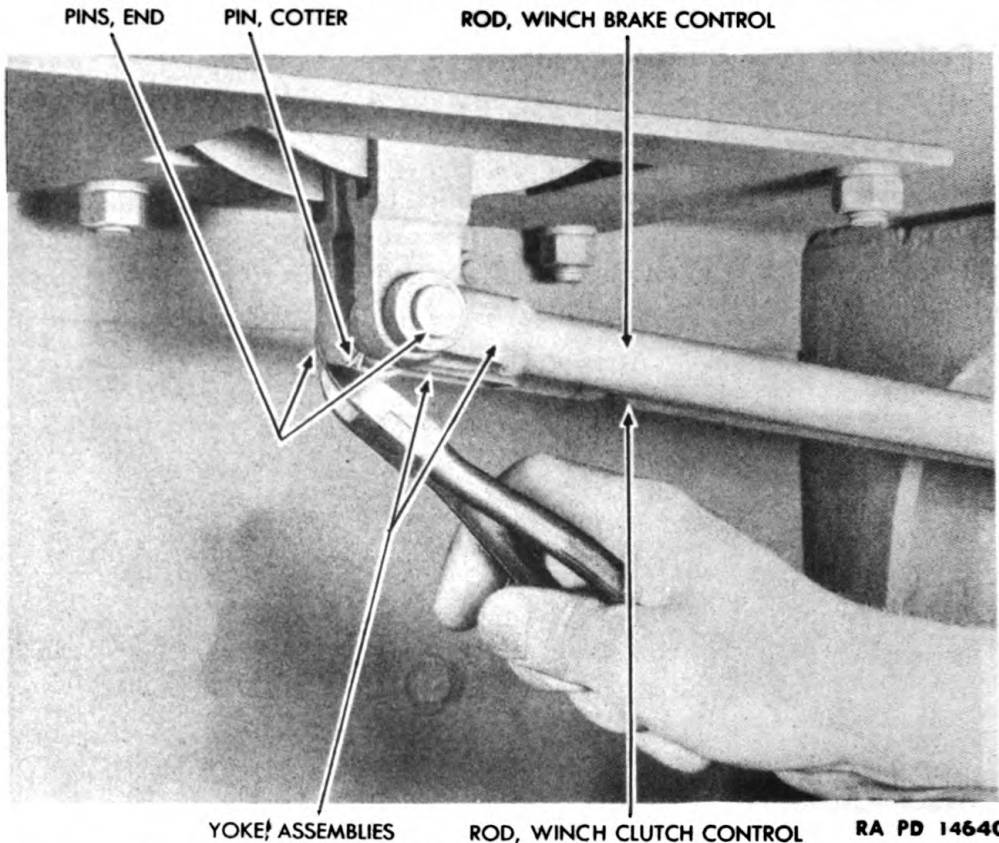

Figure 191 — Disconnecting Winch Clutch and Brake Control Rods from Winch Shifter and Brake Levers
(10) DISCONNECT WINCH CLUTCH AND BRAKE CONTROL RODS FROM WINCH SHIFTER AND BRAKE LEVERS (fig. 191).